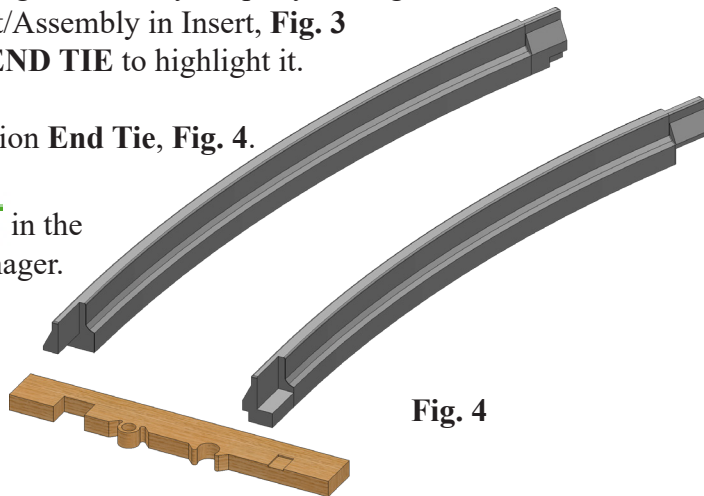

Fig. 4
Step 7. Click to position **End Tie**, Fig. 4.